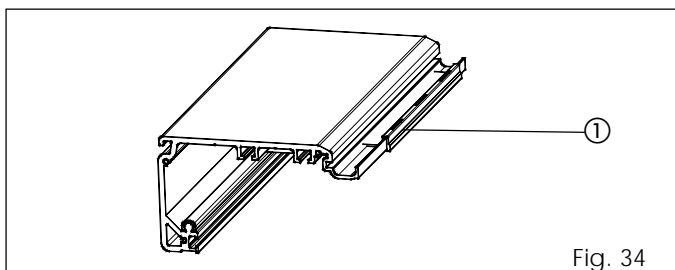

Fig. 34
- Fit three spacers (fig. 34 ref. ①) on the outer edge of the support profile, positioning them at the ends and at the centre.